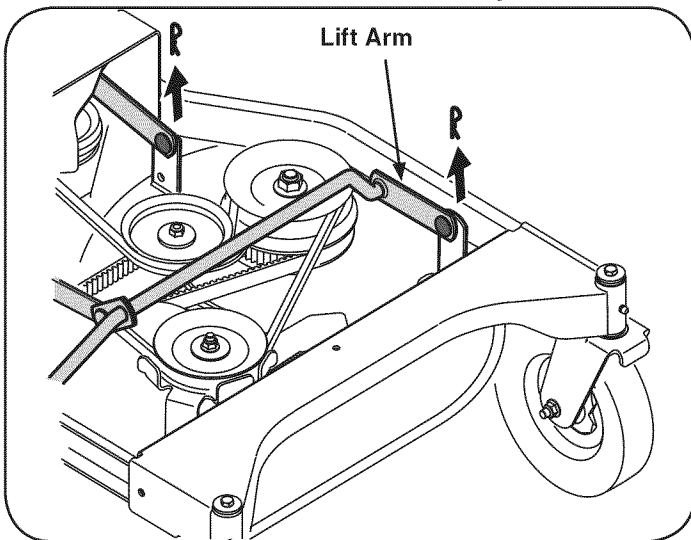

Figure 25
7. Looking at the cutting deck from the left side, locate and carefully remove the hairpin clips that secure the deck supports on the rear left side and front left side of the deck. See Figure 25.
9. Carefully remove the front deck supports from the deck lift arms, Figure 25.